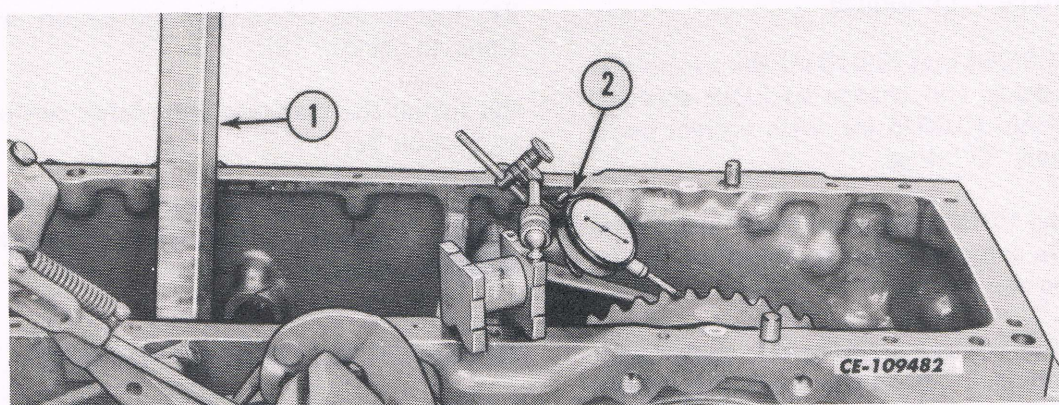

Fig. 23
14. Using a dial indicator, check the backlash of the ring gear (Fig. 23). Block the main shaft so it does not turn. The specified backlash is 0.15 - 0.28 mm (0.006 - 0.011 in). Inspect at two points 180 degrees apart.